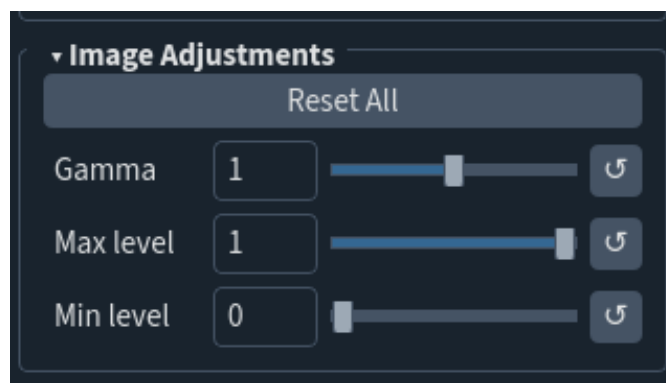
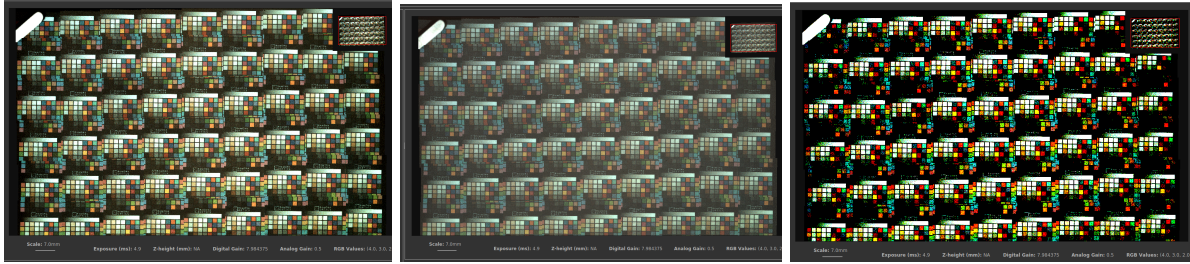

Fig 12: GUI contrast settings.
Fig 13: Images with different Max and Min levels: 0 and 1 (left), 0.7 and 0.2 (center), 0.5 and 0.5 (right).
**Gamma:** Adjusting this value will control the encoded image’s sensitivity to bright and dark tones and is an effective method of controlling the overall image contrast as perceived by humans (Fig 12). Reducing Gamma will decrease shadows and darker tones yielding a brighter image.
**Max and Min Levels:** The “Max level” and “Min Level” sliders are used to set the contrast of the image as displayed in the GUI (Fig 12). All pixels in the raw image data with values equal or greater to the selected “Max Level” will be displayed using the highest pixel value, while any data pixels with values below the “Min Level” will show up as black. The remaining middle range of pixels will be displayed using the full range of display pixel values. These settings are only for immediate display, and do not impact the data being gathered or saved. Fig 13 shows the impact on the displayed image of changing the Max and Min levels.
To take and save a video or Z-stack, open the Assays window by selecting the “Assays” menu. Select either “Acquire Video” or “Acquire Z-stack” within it. A panel on the right side of the screen will pop up (Fig 13, Fig 14) and the user can start by entering a filename and any pertinent notes in the “Additional Information”.